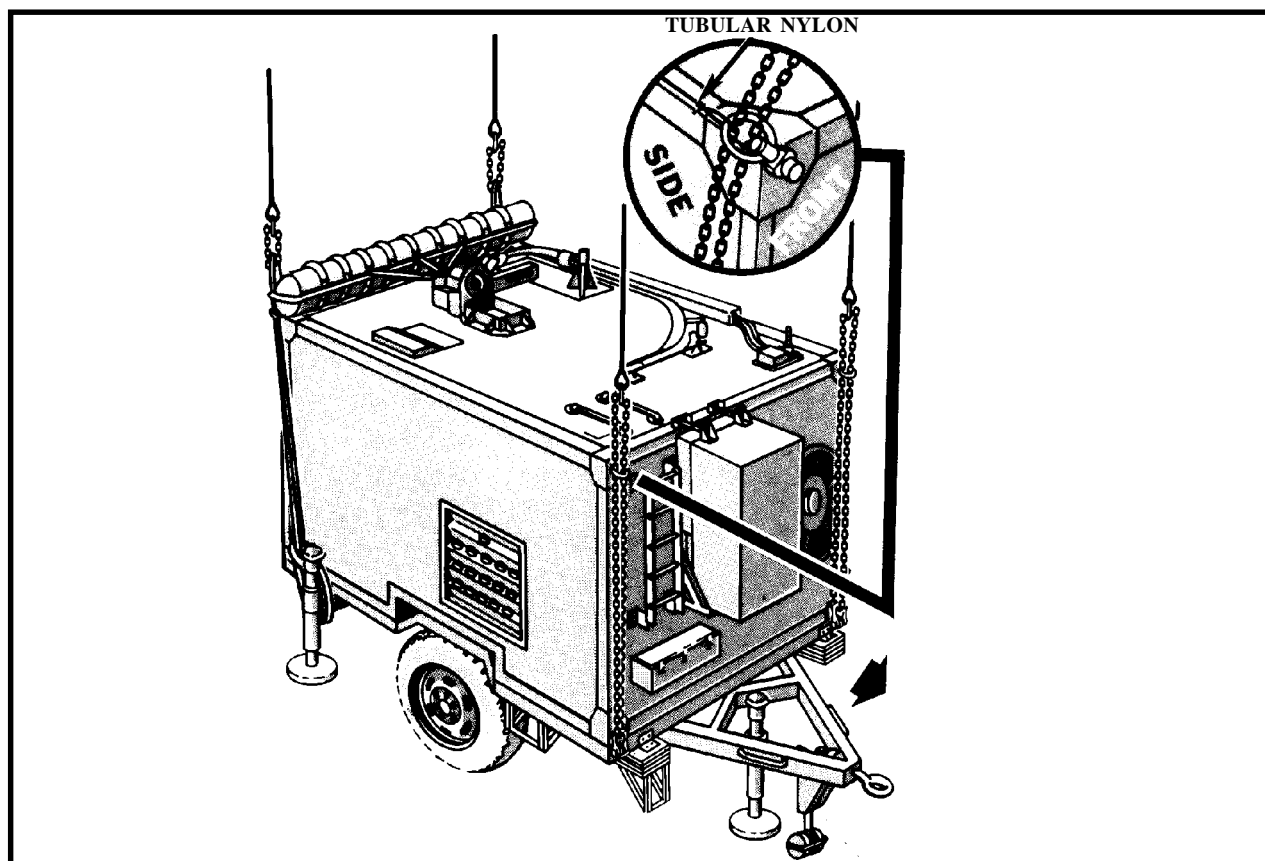

Figure 7-12. Platoon Command Post/Battery Command Post
(2) **Rigging.** Rig the load according to the steps in Figure 7-12.
(4) **Derigging.** Derigging is the reverse of the preparation and rigging procedures in steps d (1) and d (2).